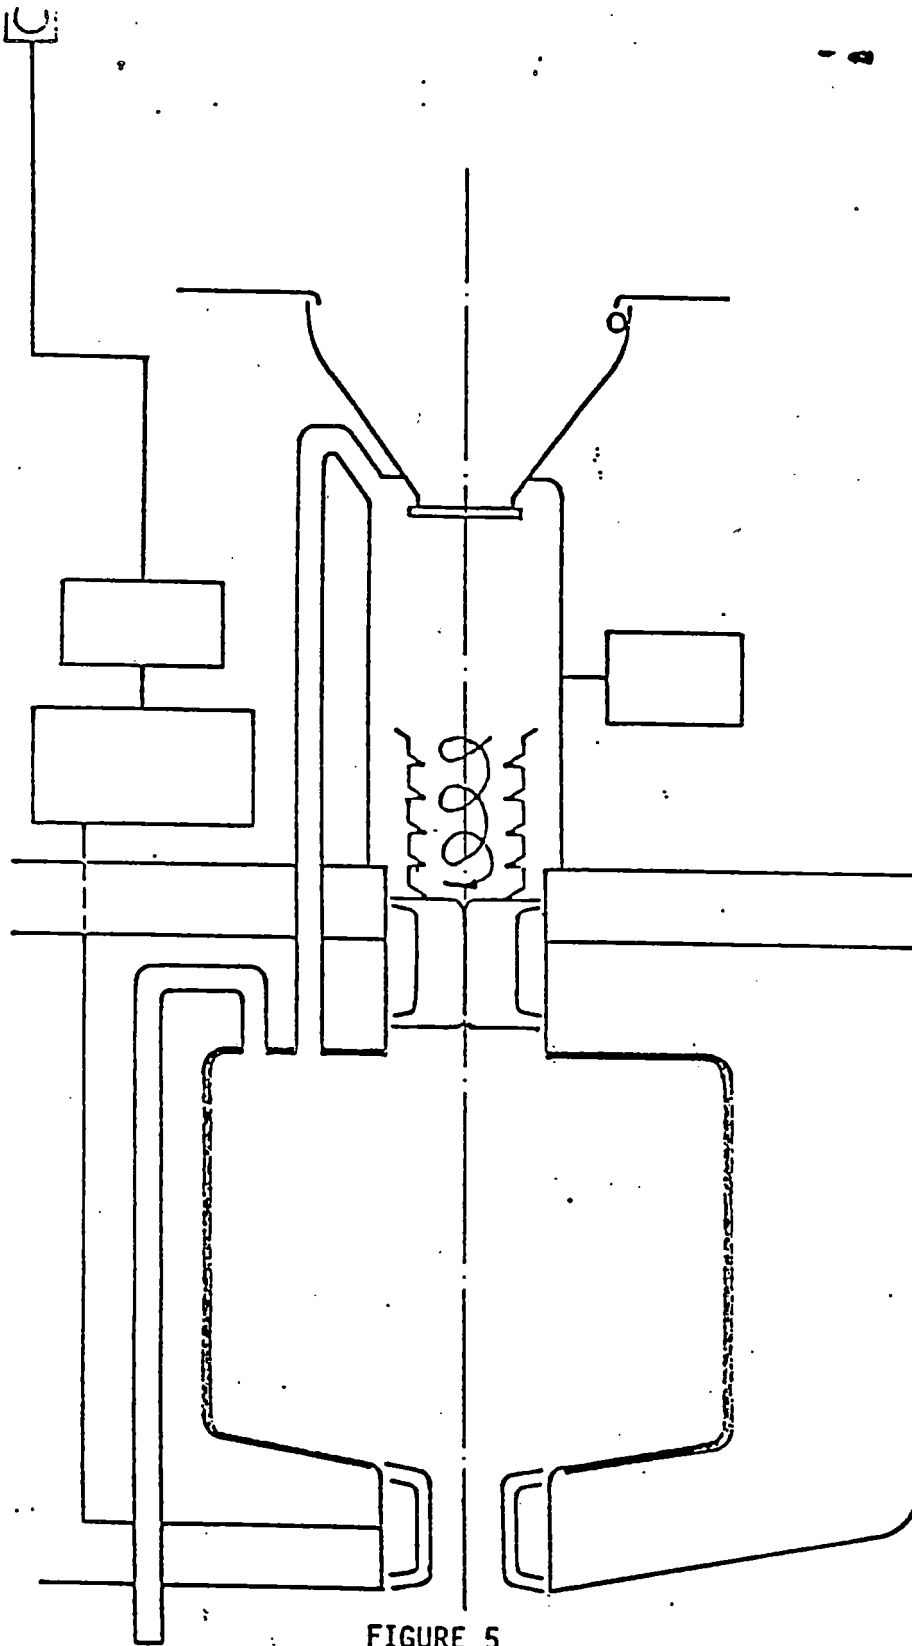

FIGURE 5
Figure 5 illustrates the system during the maceration and treatment cycle. Note that the Flap Valve is closed. Air under pressure is injected into the chamber. This results in a violent blending of air, water, chemical and waste. This action continues for approximately seventy (70) seconds.